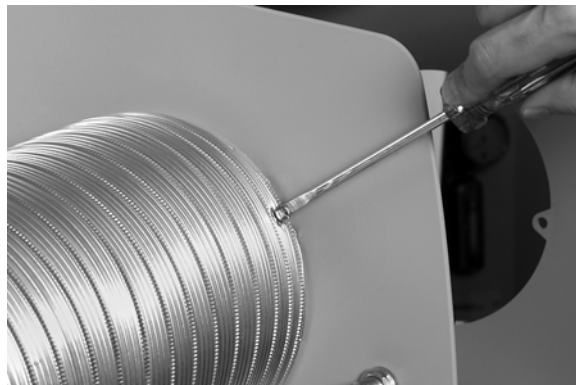

Fig. 14. Connecting Bypass Duct to Humidifier.
3. Secure Bypass Duct to Humidifier using at least three #8 x 3/4 in. Sheet Metal Screws. See Fig. 14. Drill pilot holes using 1/8 in. drill bit.)